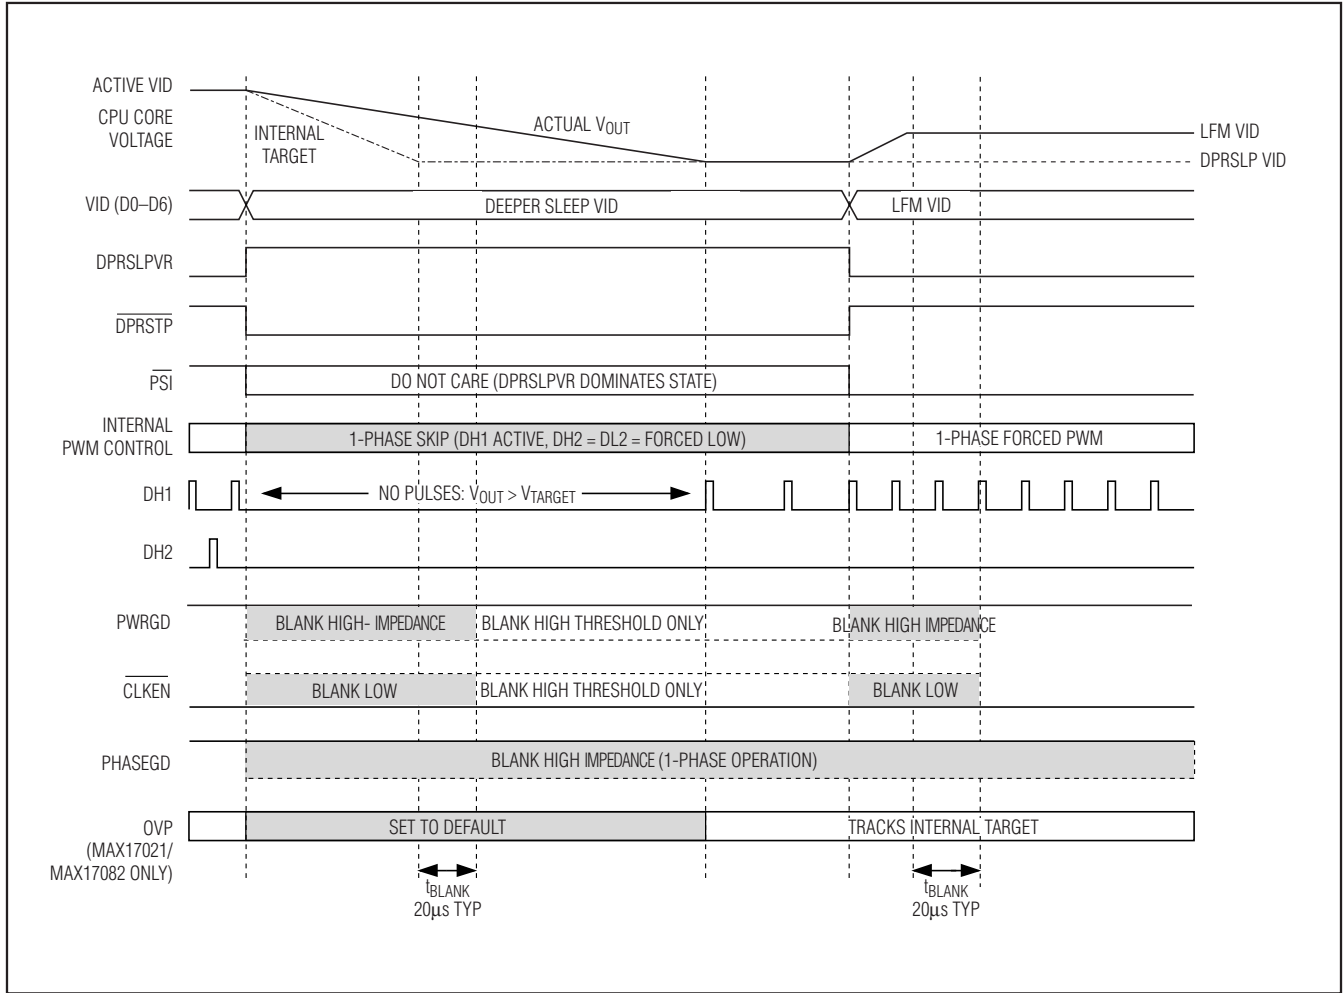

Figure 6. Standard C4 Transition
- Standard C4 Deeper Sleep Exit:** When exiting deeper sleep (DPRSLPVR pulled low) while the output voltage is regulating to the deeper sleep voltage, the MAX17021/MAX17082/MAX17482 immediately activate all enabled phases and ramp the output voltage to the LFM DAC code provided by the processor at the slew rate set by RTIME. The controller blanks PWRGD, PHASEGD, and CLKEN until 20µs after the transition is completed. See Figure 6.